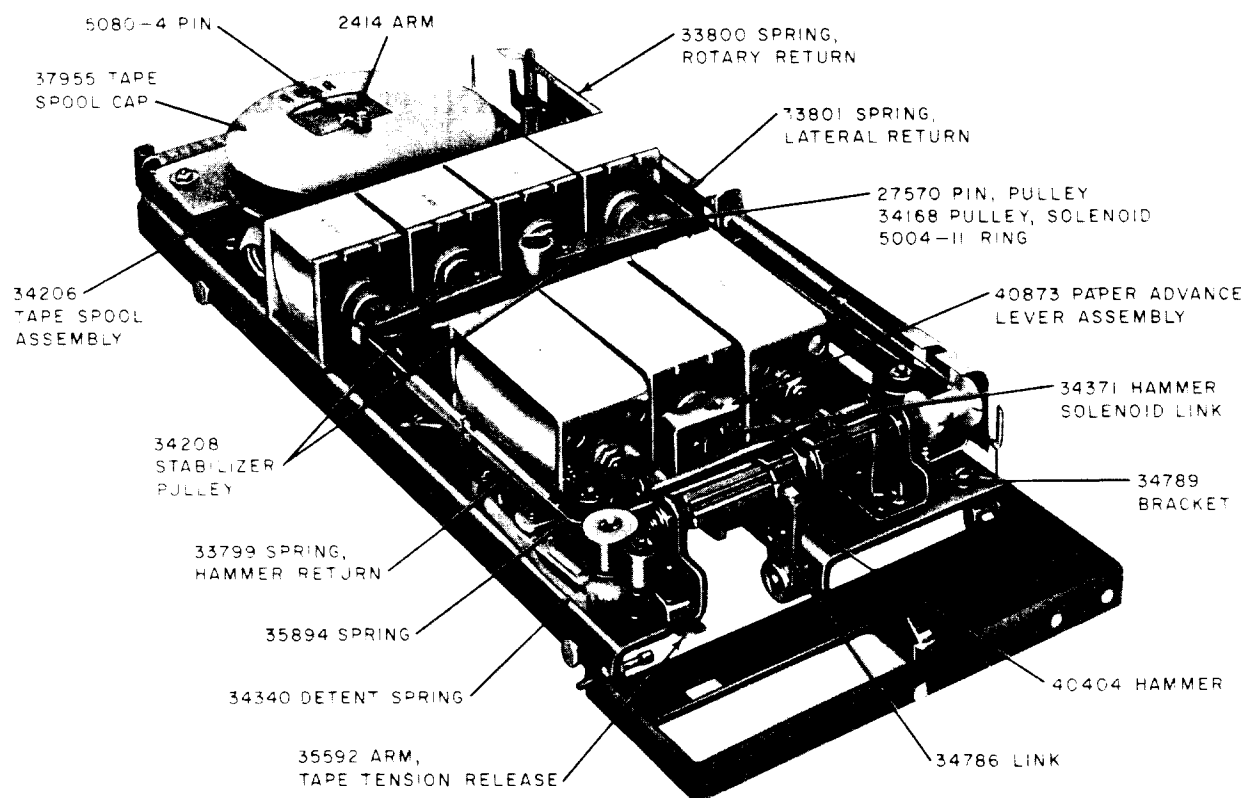

Fig. 1—KS-19717 L6 Tape Printer—Cover Removed
2.01 Fig. 1 through 5 included in this part show the various piece parts in their proper relation to other parts of the tape printer. The piece-part numbers of the various parts are given with the names of the parts as assigned by the manufacturer.